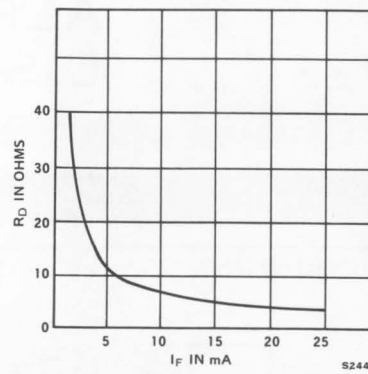

Figure 2 Brightness vs Temperature
- The curve in Figure 2 is normalized to the brightness of  $25^\circ\text{C}$  to indicate the relative efficiency over the operating temperature range.